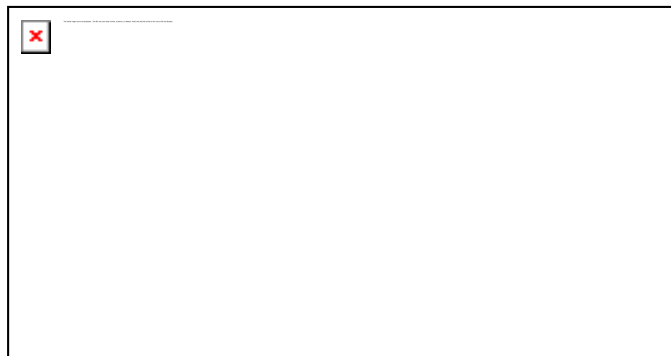

Figure 11. Marked area on main port of freeze plug.
7. Remove the main port freeze plug by hitting the marked area with a small punch until it turns (Figure 11). Remove with pliers.